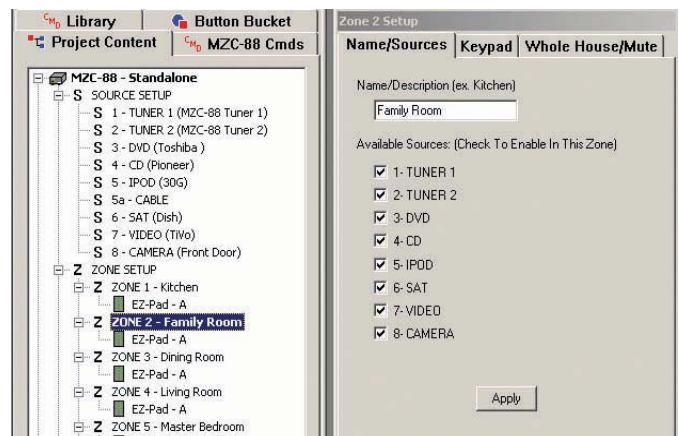

Figure 26
3. Under **Project Content/Zone Setup**, left click the Zone that the MODE Keypad is going to be added to - for this example, Zone 2. The **Zone 2 Setup Window** will appear as shown in **Figure 26**.